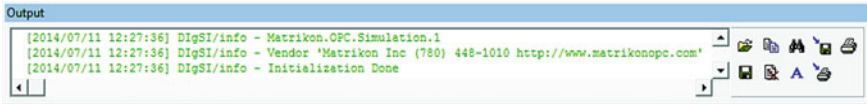

Fig. 16.10 OPC server connection (success) message
8. Click the **“Execute”** button in the OPC command object to connect to the OPC server. Note the connection success message in the output window as shown below in Fig. 16.10.